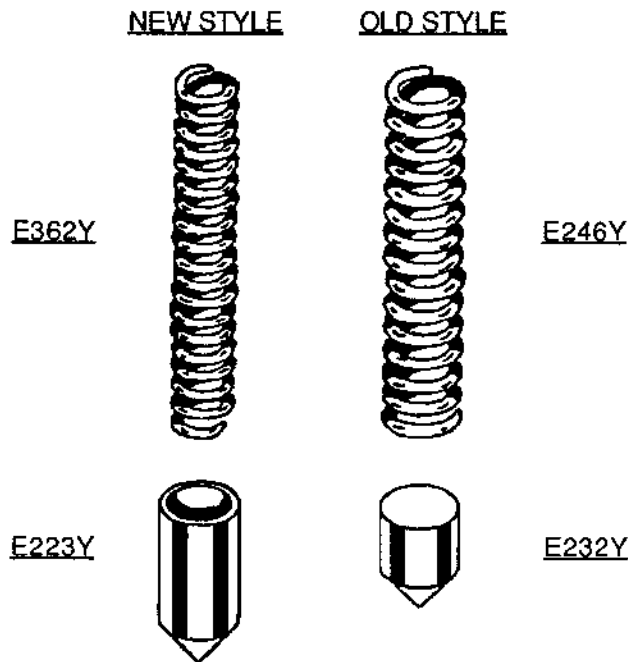

FIG. 6 CONTROL STEM PAWL
- C. Control Stem Pawl (Old Style, Fig. 6)
- D. Control Stem Pawl (New Style, Fig. 6)